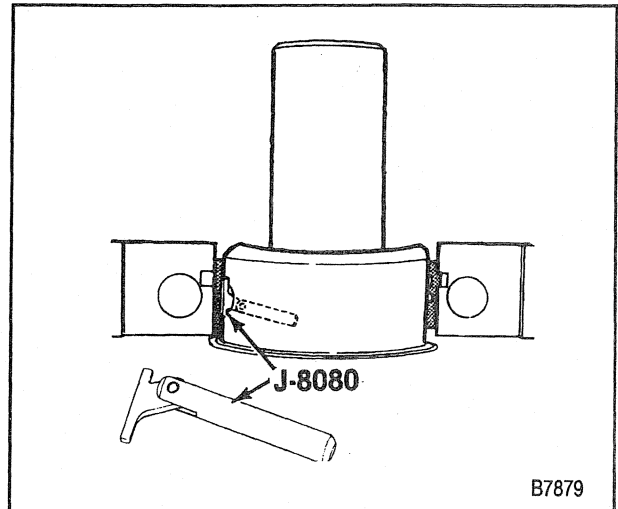

Figure 32—Removing the Main Bearings
### Remove or Disconnect (Figure 32)
- A. Insert tool J 8080 into the crankshaft oil hole (figure 32).
### Install or Connect (Figures 32 and 33)
- A. Insert tool J 8080 into a crankshaft main bearing oil hole (figure 32).